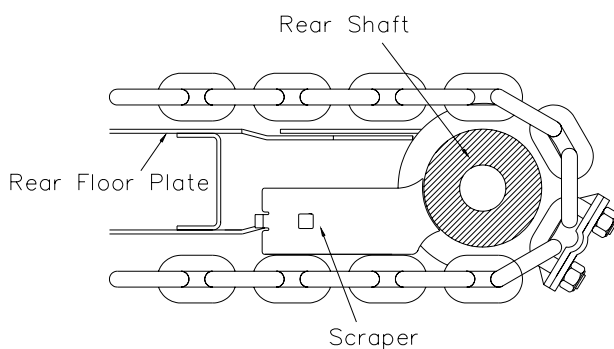

Figure 6. Sprocket Scraper position.
Remove the Blade Bar Boss (2) by undoing the M12 bolt (3), illustrated in Figure 6. Using the Blockage Removal Tool, which is stored on the front of the machine, slide out Blade Beam by hooking the Boss hole.
After tensioning the Bed Chain the position of Rear Sprocket Scrapers must be altered. To adjust slacken the nut on the outside of the body. Slide the Scraper towards the Chain Wheel so that it runs tightly against the bottom of the groove in the centre of the Chain Wheel, retighten the nut, see Figure 6. Repeat procedure on the opposite side of the machine.